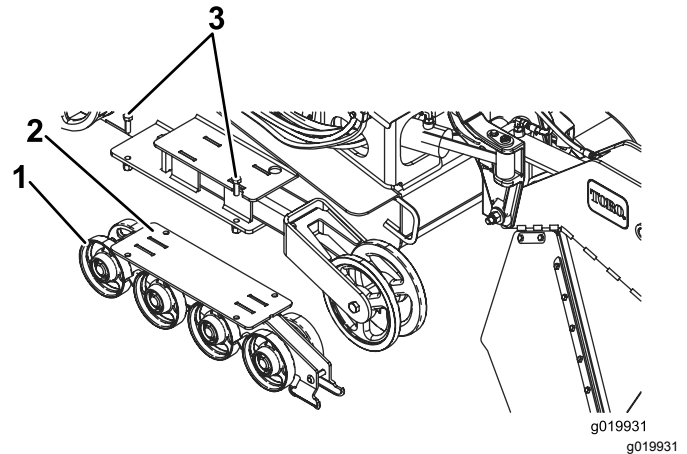

Figure 50
4. Remove the 4 bolts securing each lower track guide which contains the road wheels, and remove them (Figure 50).